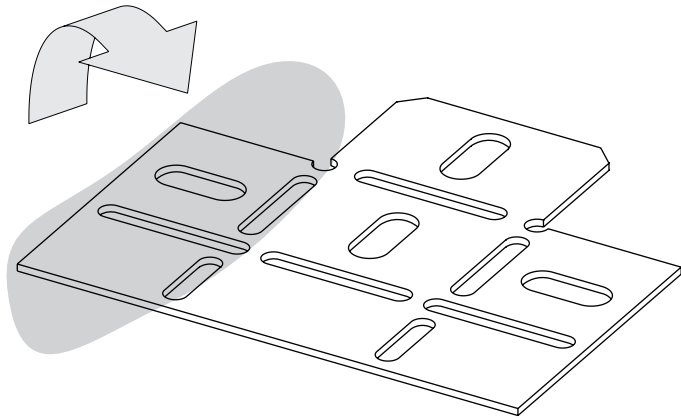

Figure 7
10. For all style liners, form the bottom liner brackets as shown in **Figure 7**.